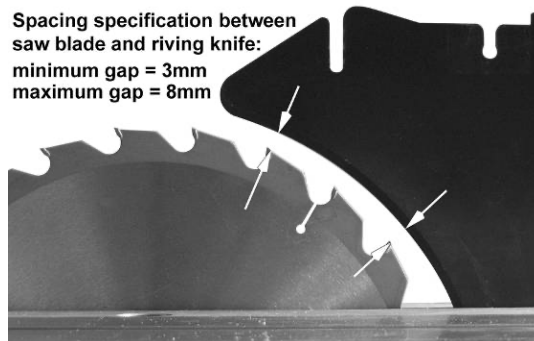

Figure 26
The gap between saw blade and riving knife must be between 3 and 8mm (Figure 26).
3. Slide the bracket (C) toward or away from the saw blade as required.
4. Tighten the socket head button screws (E).
5. Reinsert riving knife; tighten lock lever (A) and check that saw blade/knife gap is between 3-8mm (Figure 26).